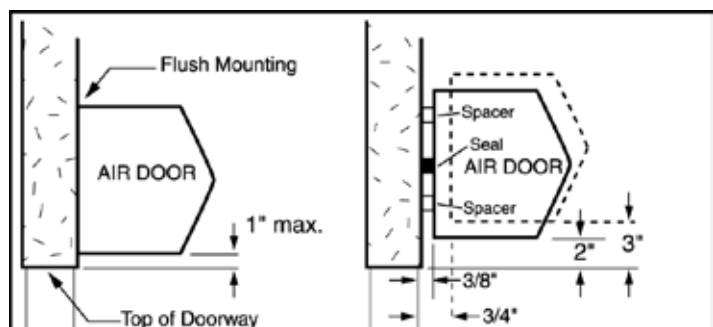

FIGURE 2 - Positioning of Air Door
B. For optimum performance, the bottom of the unit (discharge nozzle) should be no more than 1" above the top of the door opening with the unit mounted flush to the wall. If the unit must be mounted higher, it must be **spaced out** from the wall **3/8" for every inch** the unit is above the door opening. Any void between the air door and the wall should be sealed along the full length of the unit. **See FIGURE 2**